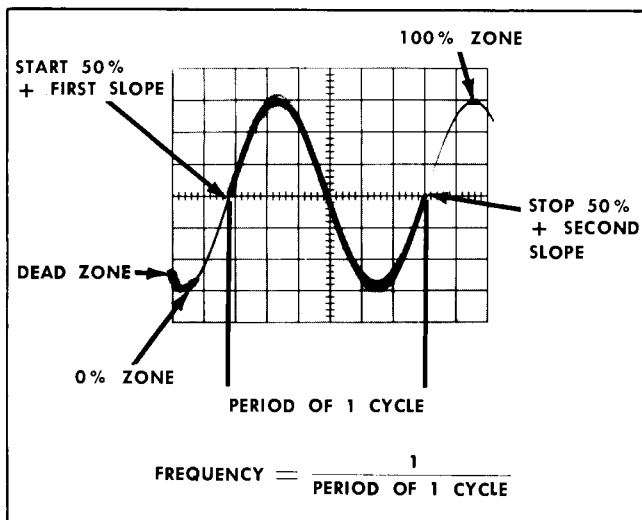

Fig. 2-5. Frequency measurement.
1. Adjust the horizontal time-base plug-in unit to display 2 cycles or pulses (see Fig. 2-5).